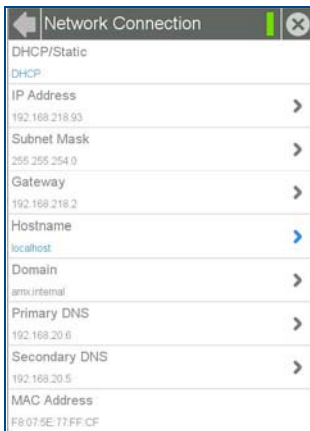

FIG. 6 NETWORK CONNECTION PAGE
- Select **Network Connection** to open the *Network Connection* page (FIG. 6).